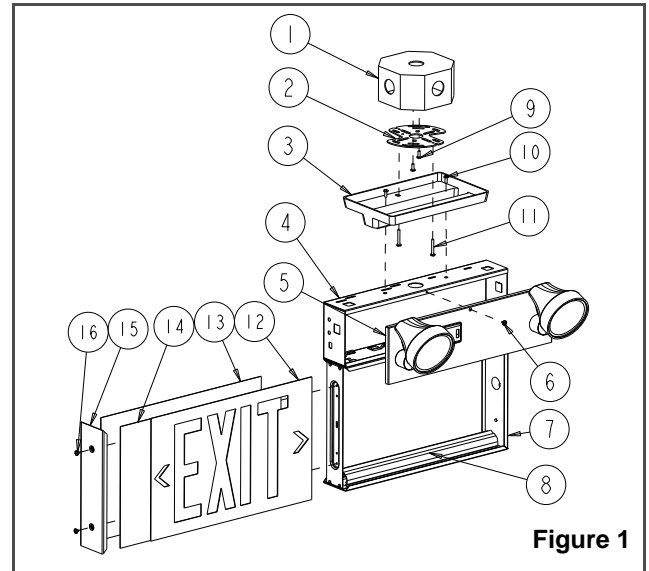

Figure 1
3. Remove exit face. To open the sign, remove end cap (if applicable)(see fig. 1) and slide out the exit face and diffuser panel.